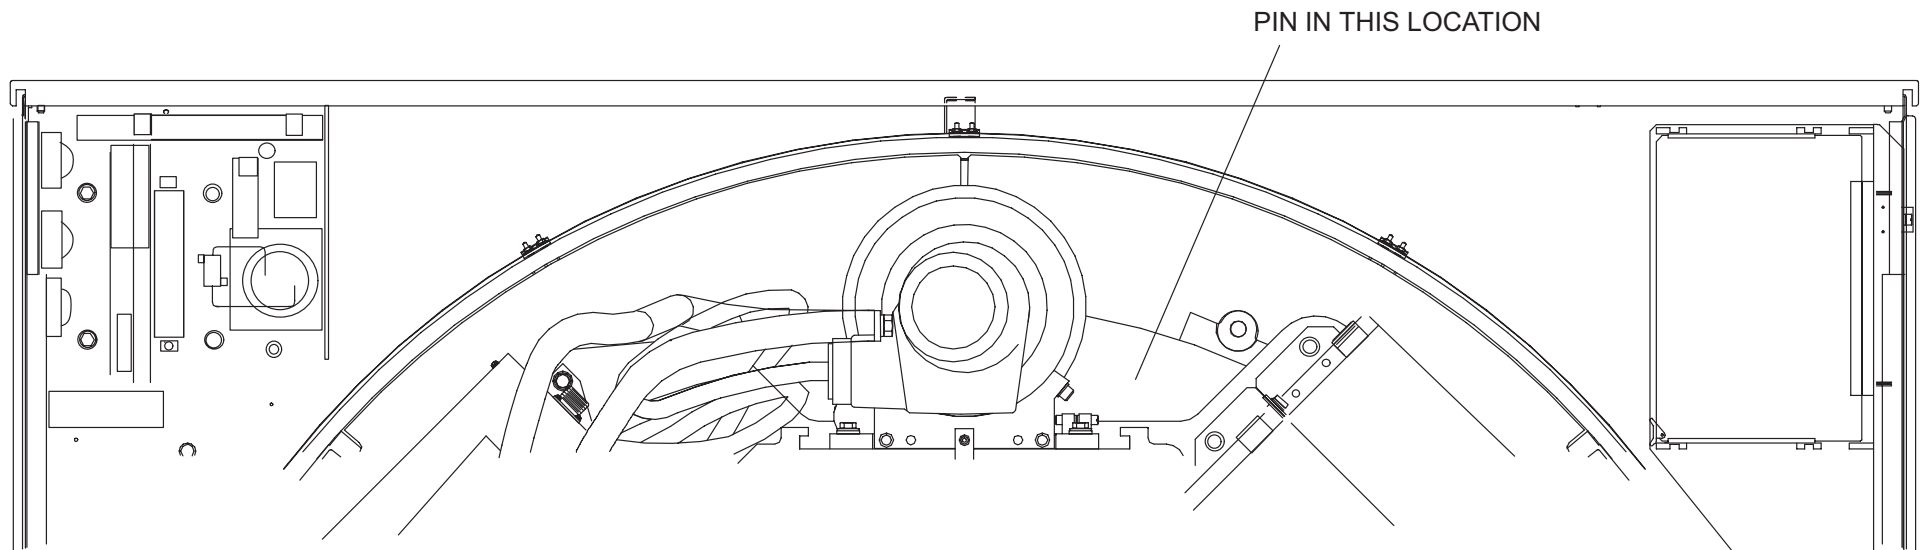

FIGURE 66 ROTATING FRAME WITH TUBE PINNED AT 12 O'CLOCK
3. Rotate the scan frame until the X-ray tube is at the 12 o'clock position. See Figure 66.